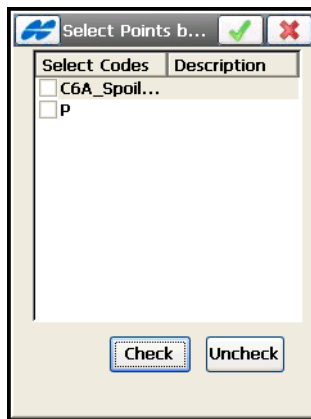

Figure 6-36. Select Points by Code
**By Code:** select the codes with which the points are added to the area. The *Select Points by Code* screen displays (Figure 6-36 on page 6-30).